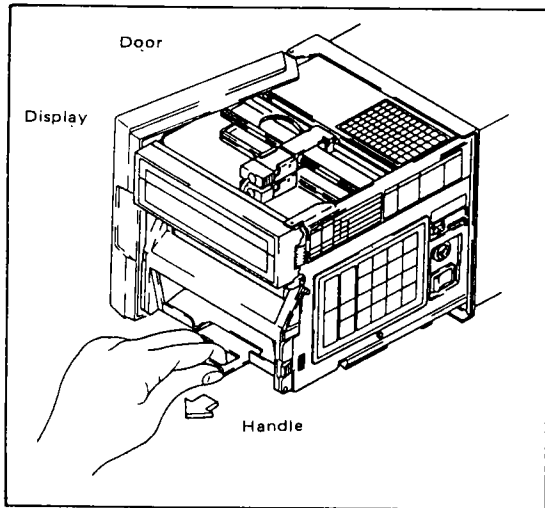

Figure 5-9.
(1) Open the unit front door by inserting fingertips into the recessed area on the right side near the front and pull outward. Grasp the internal unit handle located at the lower front of the unit and pull the internal assembly as far out as possible. (See Figure 5-9.)